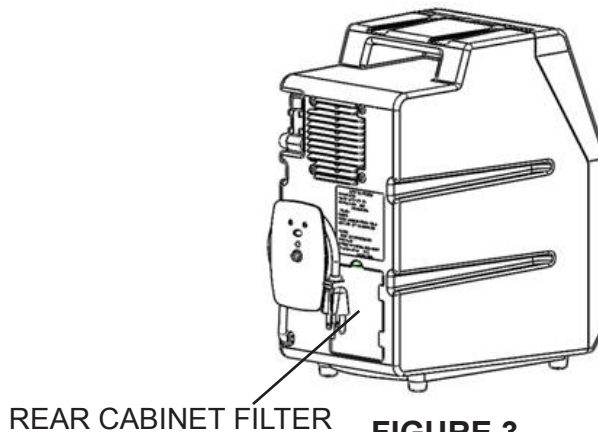

FIGURE 3
A. REPLACING CABINET FILTER (FIGURE 3)